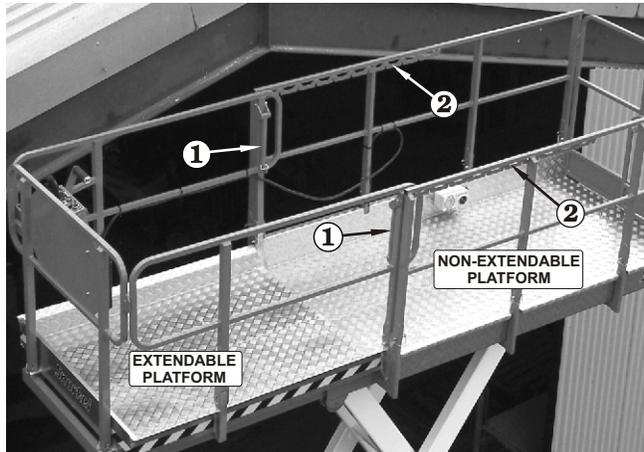

Figure 8.17
The MULTI-position extendible platform (see Figure 8.17) can be securely locked into different positions. To move it from one position to the other do the following:
2. Lift up the deck extension handles (one for each side of the deck) ① to unlock the deck (see Figure 8.17).
4. Lower the deck extension handles and allow the lock ② to locate (see Figure 8.17).